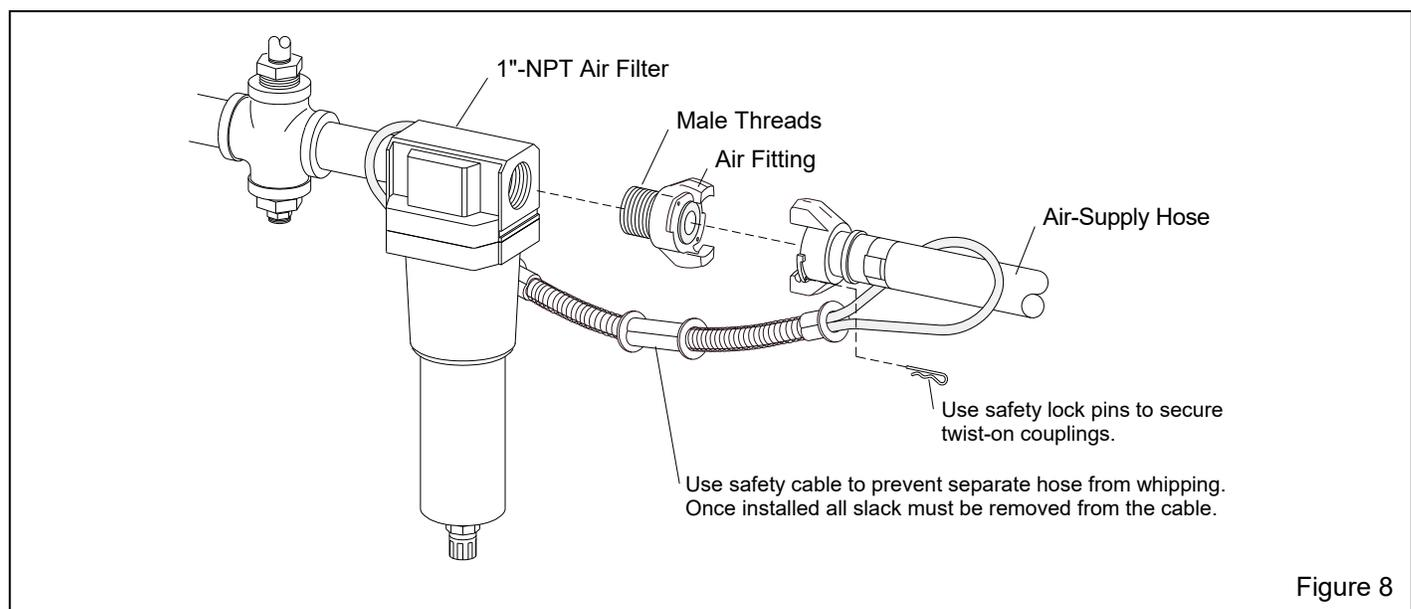

Figure 8
2.9 Connect Compressed-Air Supply Line(s) Figure 8
2.9.1 Apply thread sealant to the male threads of an air fitting that is compatible with the air-supply hose fitting, as noted in Section 2.9.2, and install it onto the 1"-NPT air filter located at the blast machine inlet, as shown in Figure 8. Note that the style of connection shown in Figure 8 is for reference only.